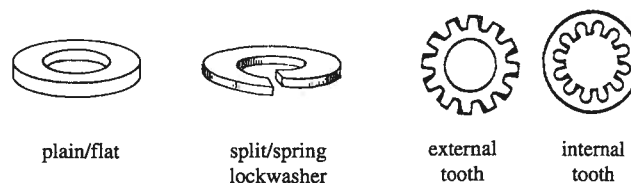

Figure 2. Washers
A washer (Figure 2) is an important accessory in many assemblies. A *flat*, or *plain*, *washer* is a holed metal disc placed under a nut or the head of a screw. It increases the bearing surface of the fastener over a wider area and it protects the underlying surfaces from being scored during tightening. A *lockwasher* (or "shakeproof washer") acts like a compressed spring between a nut and a bearing surface, absorbing vibration and preventing the fastener from working loose. Many different designs appear in museum collections. The most common type on large machinery is the "split" lockwasher, basically a cut steel ring with its ends bent apart. Lockwashers with external or internal teeth (also called "tooth lockwashers") are commonly found in smaller, lighter artifacts
2. *Type* refers to shape and function, i.e., flat/plain, or lockwasher. Lockwashers may be split or have external or internal teeth (Figure 2).